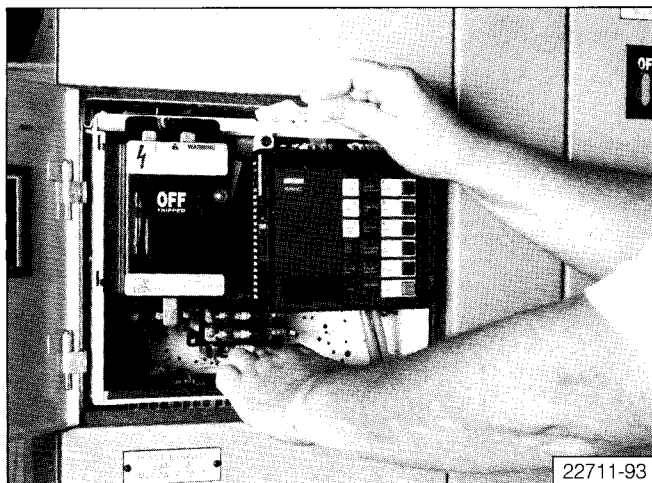

Figure 21A: Draw-Out Unit (Pan Assembly) Removal
4. Grasp the handle on the racking cam located on the top of the unit and pull out, rotating the cam until it stops (approximately 90°). This will withdraw the unit far enough to separate the stabs from the vertical bus (**Figure 21A**).